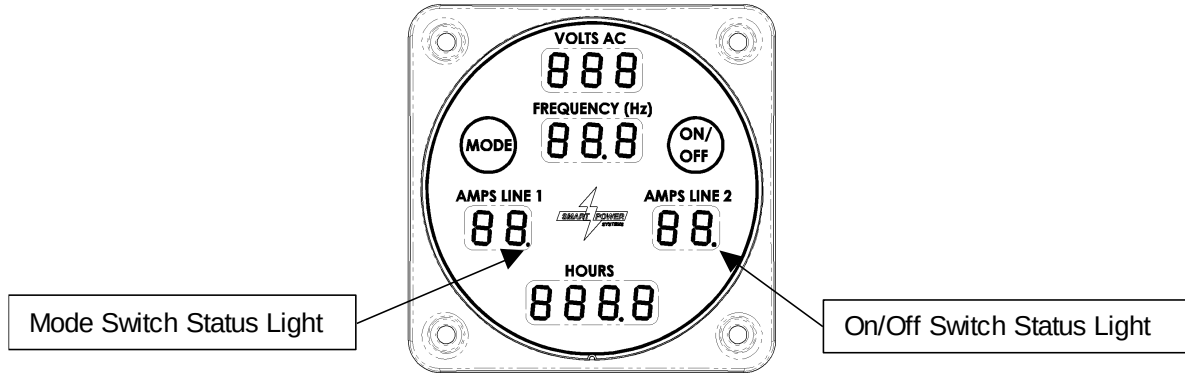

Figure 14 – Switch Status Lights
3. The Command & Control Center is equipped with two Smart Touch® switches, labeled "Mode" and "On/Off" respectively. These switches do not require pressure to be activated, but instead sense the presence or absence of your fingertip. The decimal points in the "Amps Line 1" and "Amps Line 2" fields of the Command & Control Center are used to indicate the status of the Mode and On/Off switches respectively (reference Figure 14.)